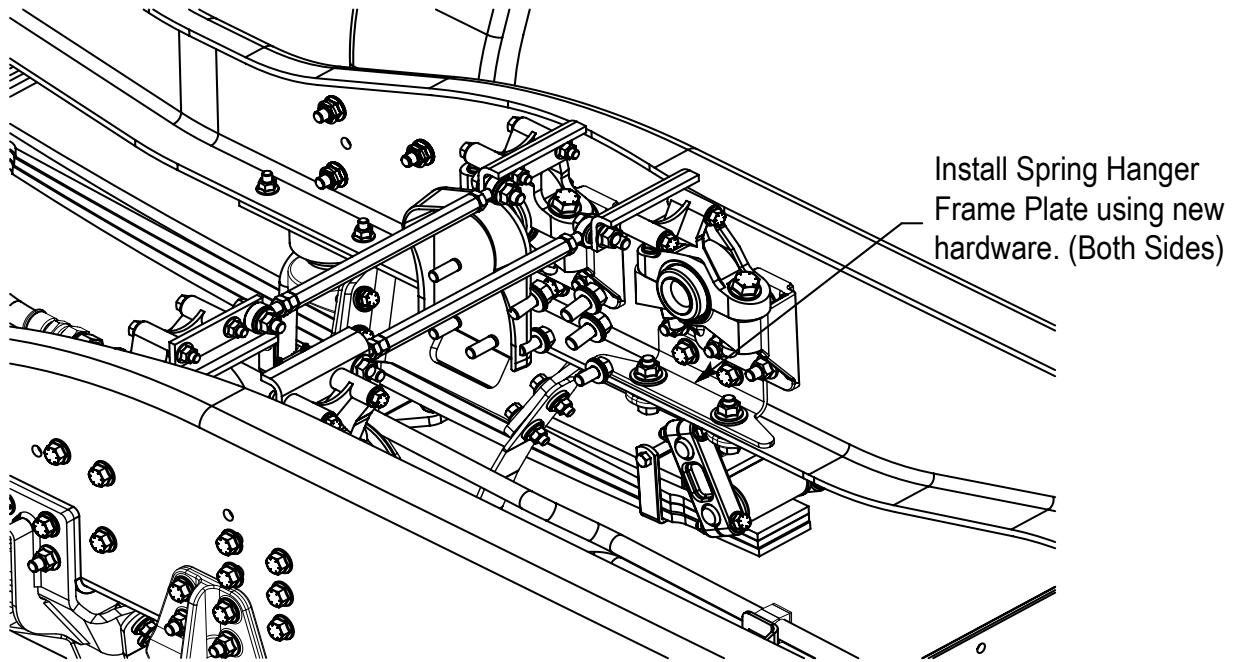
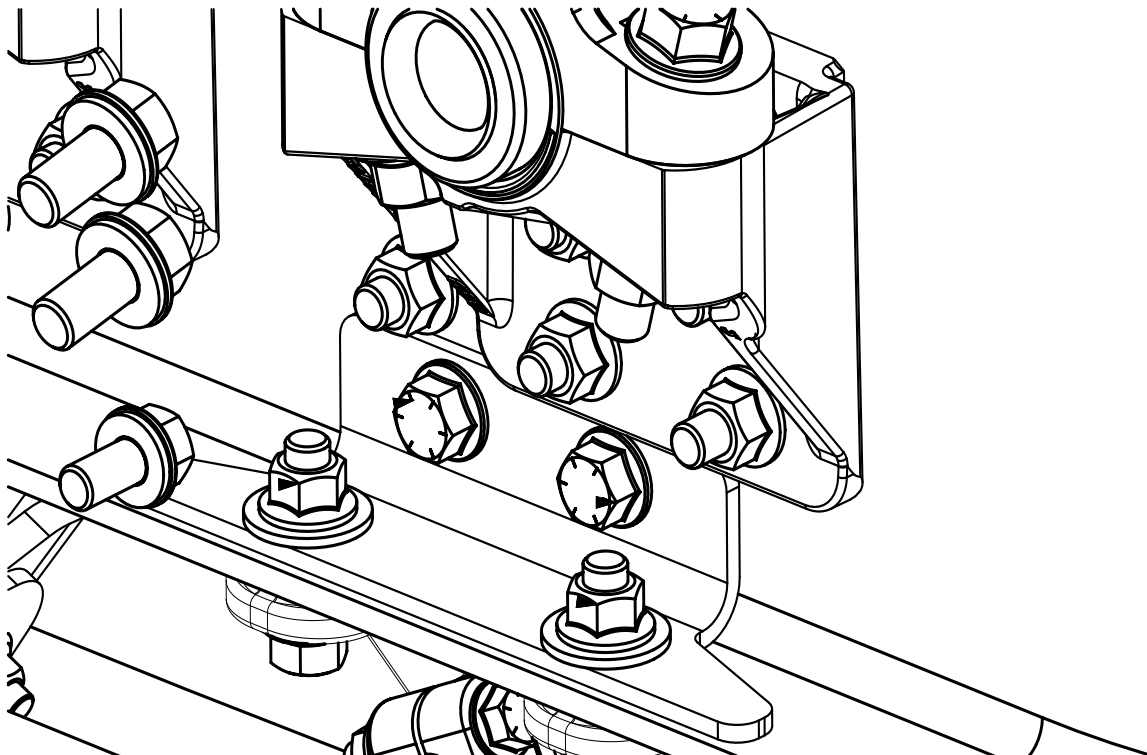

Figure 11
Figure 12
- Install Spring Hanger Frame Plate (S4030064-001) using new Flange Bolts (FE410162AW24), Locknuts (FE286262BW01), and Washers (GE811662WY01) (both sides) (Figure 11 and Figure 12).